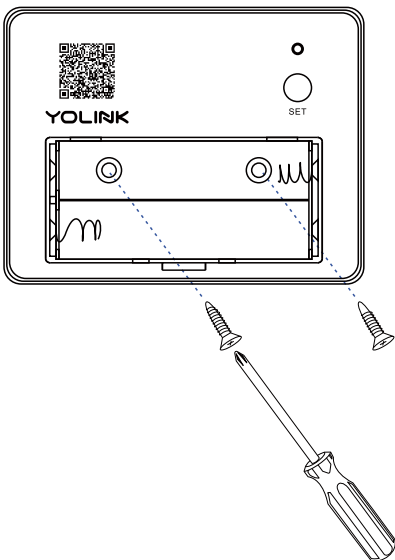

Figure 3
2. Place the sensor at the desired location and secure it to the garage door using screws (not included), as shown in Figure 3.